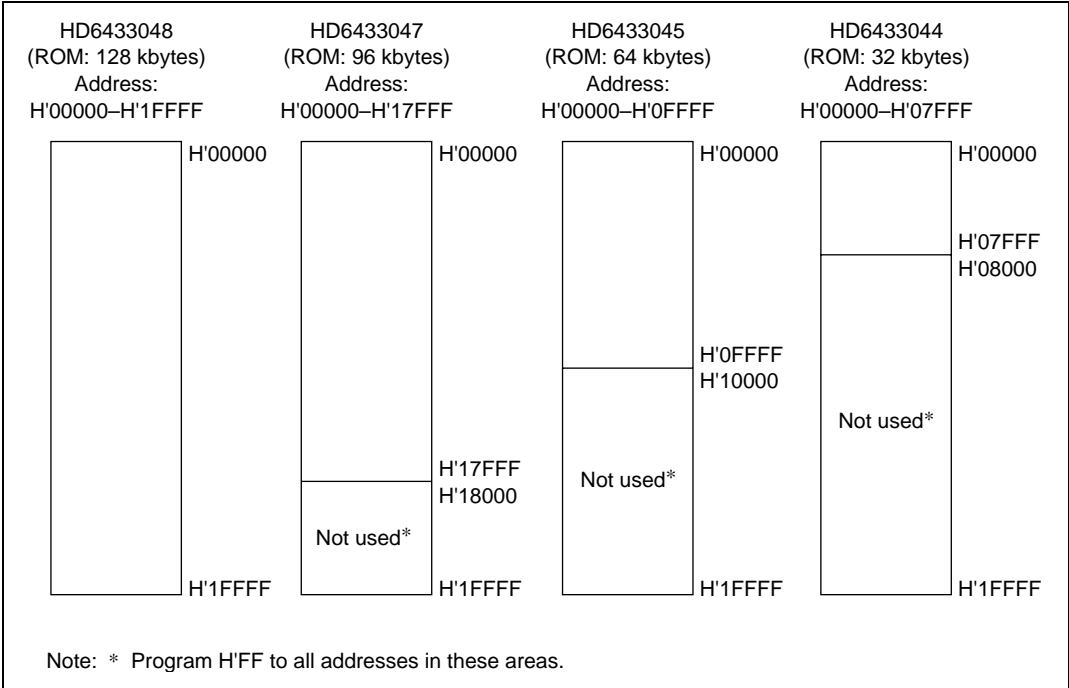

Figure 18.7 Masked ROM Addresses and Data
- Fill all the unused addresses with H'FF as shown in figure 18.7 to make the ROM data size 128 kbytes for all H8/3048 Group chips, which incorporate different sizes of ROM. This applies to ordering through an EPROM and through electrical data transfer.